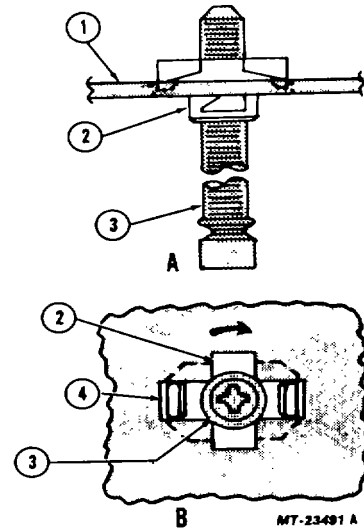

Fig.8 Adjusting Screw Mounting Details
7. If required, replace headlight adjusting screw(s) as follows: (Refer to Fig. 8).
- a. While pushing screw inward (toward rear of vehicle) rotate grommet (nut) ninety degrees (90) clockwise until front tangs of grommet align with slot in hood (fender).
- d. Rotate grommet ninety degrees (90) counterclockwise until retainer tabs on rear tangs engage with slot in hood (fender) and front tangs are perpendicular to slot.